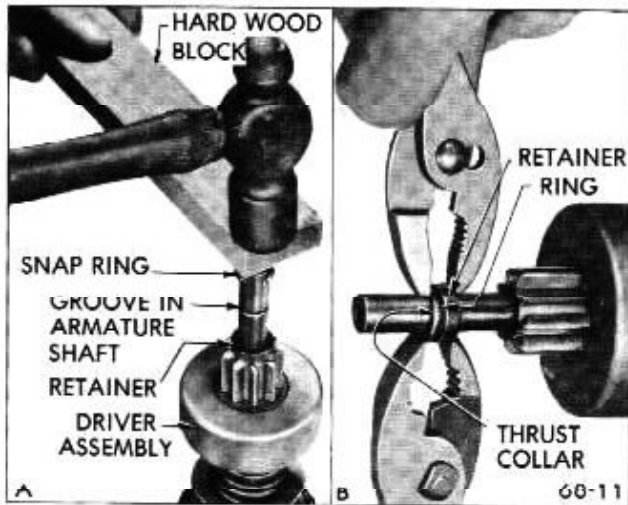

Figure 68-11 - Pinion Stop Retainer and Snap Ring Installation
5. Place a new snap ring on drive end of shaft and hold it in place with a hard wood block. Strike block with hammer to force snap ring over end of shaft, then slide the ring down into groove in shaft. See Figure 68-11, View A.
6. Place thrust collar on shaft with shoulder next to snap ring, and move the retainer into contact with ring. Using pliers on opposite sides of shaft squeeze retainer and thrust collar together until snap ring is forced into the retainer. See Figure 68-11, View B.